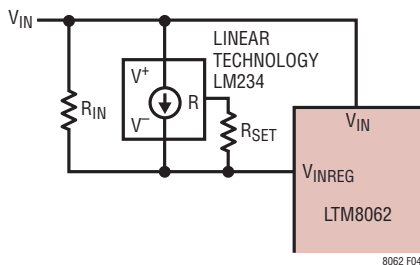

Figure 4. MPPT Temperature Compensation Network
In the circuit shown in Figure 4,
As the temperature coefficient for V_{MP} is similar to that of V_{OC} , the specified temperature coefficient for V_{OC} (TC) of $-78\text{mV}/^{\circ}\text{C}$ and the specified peak power voltage ($V_{MP}(25^{\circ}\text{C})$) of 17.6V can be inserted into the equations to calculate the appropriate resistor values for the temperature compensation network in Figure 4. With R_{SET} equal to 1k, then: